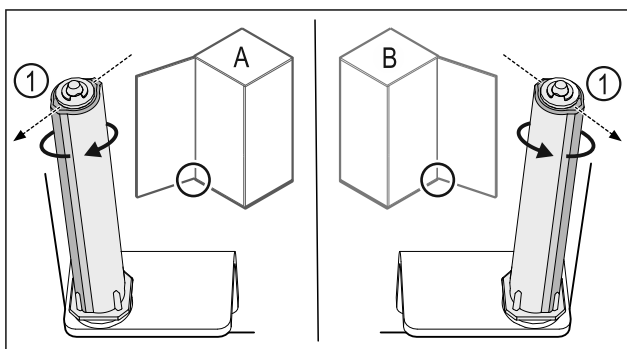

Fig. 34 Left-hinged (A) / Right-hinged (B)
- Turn the closing system against the resistance until the bar of the closing system Fig. 34 (1) points outwards.